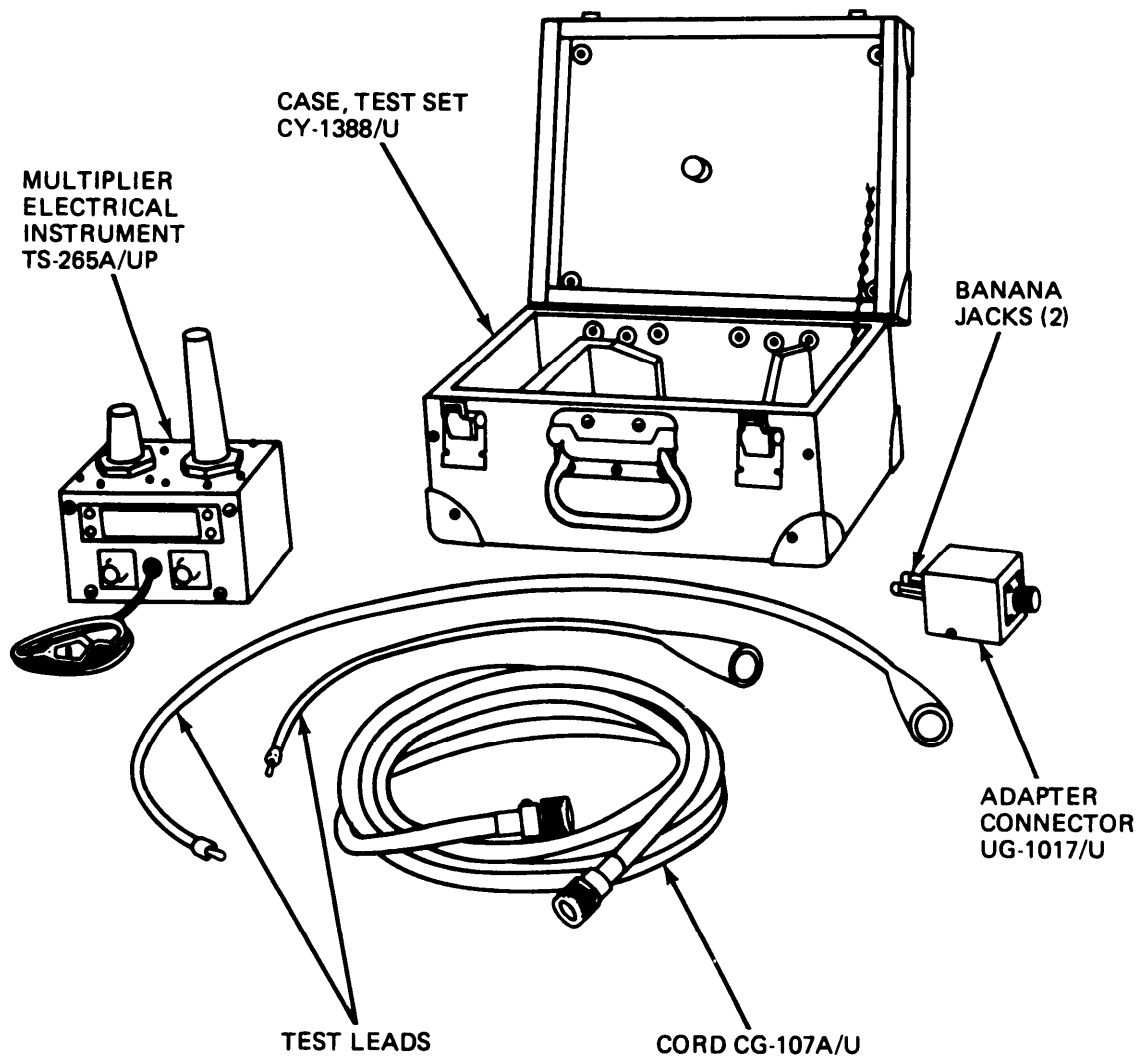
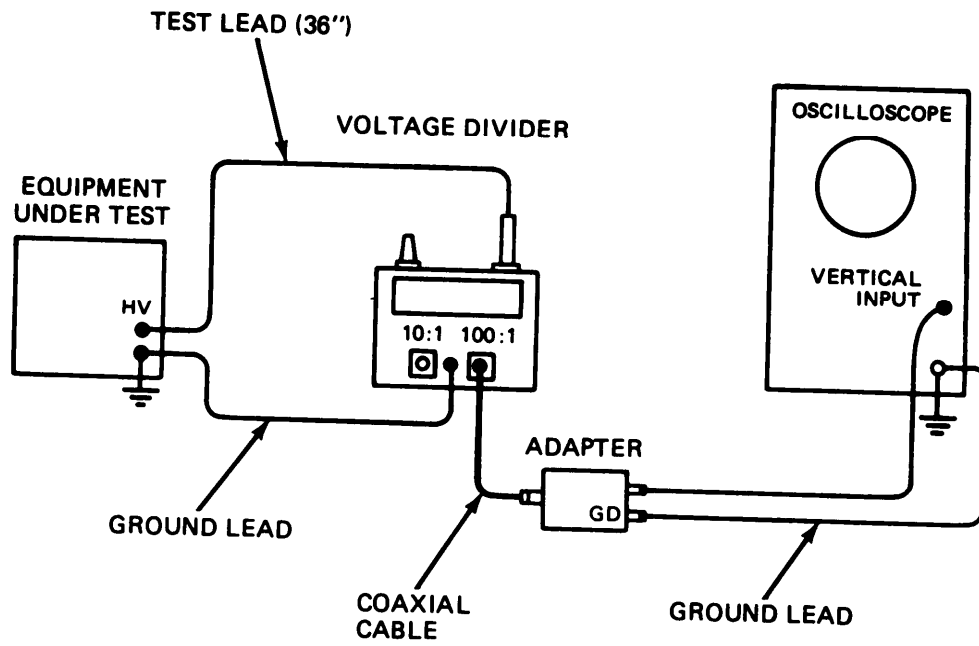
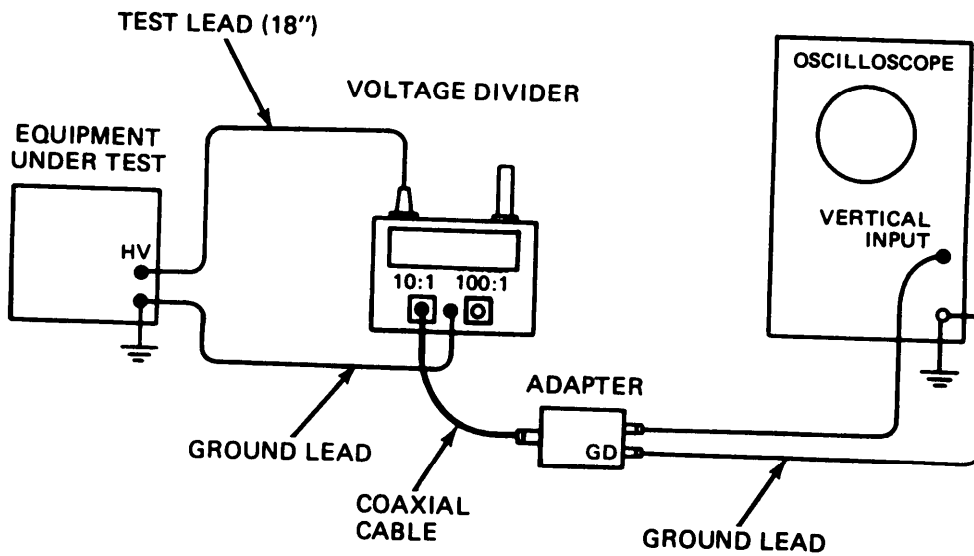

Figure 1-1 Multiplier, Electrical Instrument TS-265/UP and Accessories
Figure 2-2. Equipment Test Setup, Ratio 100:1
Figure 2-3 Equipment Test Setup, Ratio 10:1
This manual describes Multiplier, Electrical Instrument TS-265A/UP and its accessories (fig. 1-1), and covers operation and maintenance. The manual contains five chapters: GENERAL INFORMATION, OPERATING INSTRUCTIONS, GENERAL THEORY, OPERATOR AND ORGANIZATIONAL MAINTENANCE, DIRECT AND GENERAL SUPPORT MAINTENANCE.
a. Connect the ground lead (fig. 2-2) extending from the Multiplier to the ground terminal of the equipment to be tested.
b. Connect the coaxial cable to the coaxial output connector marked RATIO 100:1 (fig. 2-2) to measure a maximum 50-kV input, or to the connector marked RATIO 10:1 (fig. 2-3) a maximum 5-kV input.
c. Connect the other end of the coaxial cable to the corresponding indicating instrument (oscilloscope). If the indicating instrument is not provided with a coaxial cable connector, terminate the coaxial cable into Connector Adapter UG-1017/U (fig. 1-1) supplied with the Multiplier. Connect both banana jacks on the adapter to the 'corresponding terminals of the indicating instrument. (Fig. 2-2). Make sure that the banana jack marked GD is connected to the ground terminal of the indicating instrument.
of capacitors C102 and C103 will be one-tenth of the voltage applied to J102. The remainder of the voltage applied will be across the series combination of capacitors C100 and C101. The reduced output is available through impedance matching resistor R100 in the corresponding 100:1 and 10:1 coaxial cable connector J100. A coaxial cable is furnished for both the 100:1 and 10:1 output jacks to connect the Multiplier to an indicating device. The adapter (fig.1-1) is used to furnish a straight-through connection from the coaxial output cable to indicating devices that are not equipped with coaxial connectors.